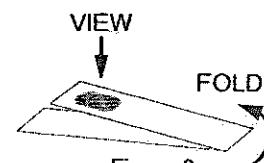

Figure 2
4. For Method A, fold the white plastic handle of the strip under the aperture so that it provides a consistent viewing background (see Figure 2). Place the strip between the Method A color blocks and view the color through the indicator window (aperture). Match with the closest color block.